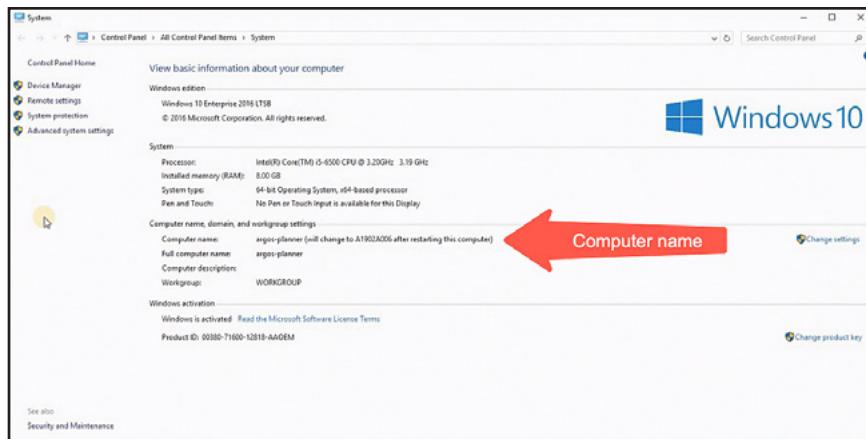

Figure 2-22 Basic Information About Your Computer Screen
- 6.15 On the basic information screen (see **Figure 2-22**), verify that the computer name will change when the system is restarted.